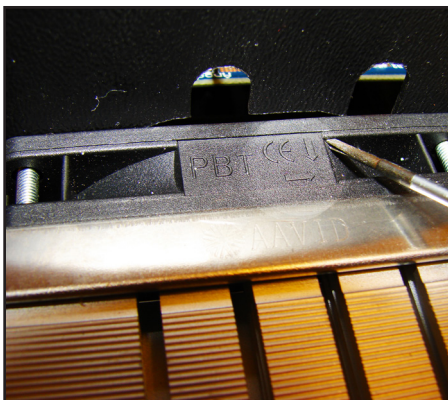
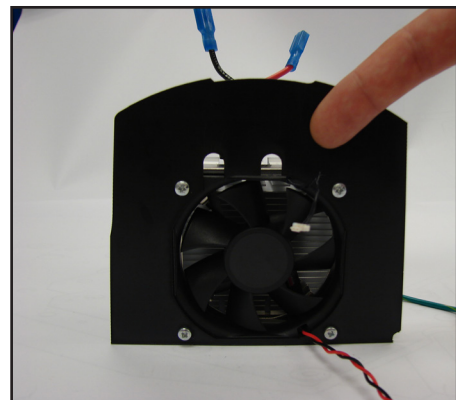

Figure 11-15
Figure 11-16
**NOTE:** When re-installing the fan, make sure that the arrow symbol on the top side of the fan points towards the heat sink to avoid backward installation (Refer to Figure 11-15 ). Furthermore, to re-install the baffle, position it such that the baffle holes are on the left side (Refer to Figure 11-16 ).